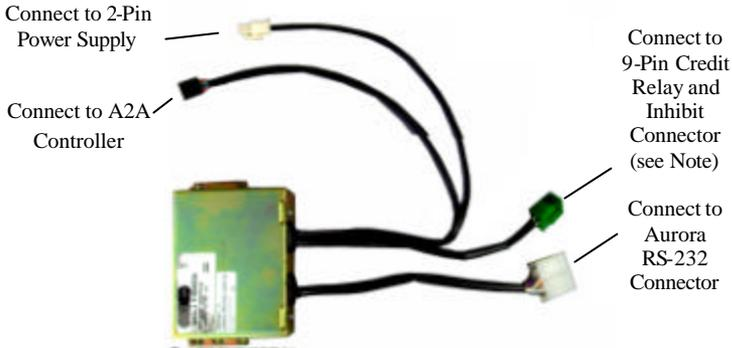

Figure 14. A2/A2A PAA
- c. For A2/A2A PAA, make the connections in **Figure 14**; for connector pin-signal assignments, refer to Technical Bulletin **GPB3T04** (latest revision).